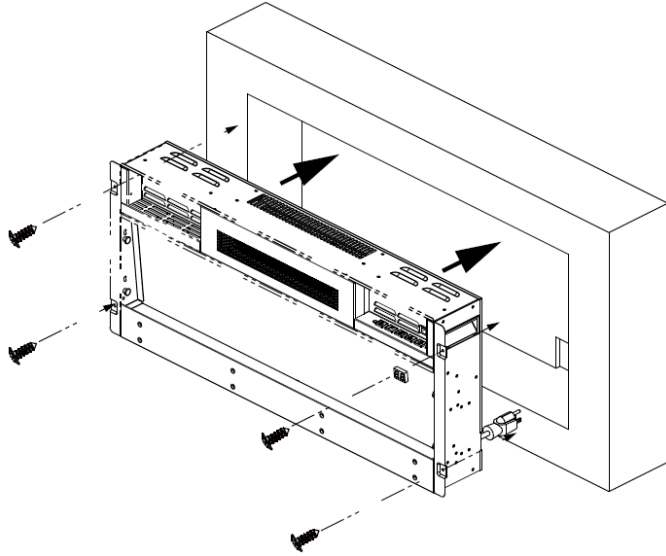

Fig.4
- For optimum viewing, mark the left and right screws (fixing positions on the wall in accordance with the appliance's holes; See Fig.4